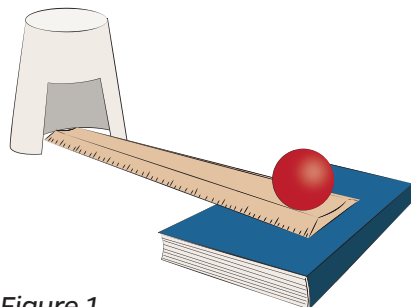

Figure 1
5. Position ONE marble in the groove at the end of the ruler resting on the book. (See Figure 1 for completed set-up.)